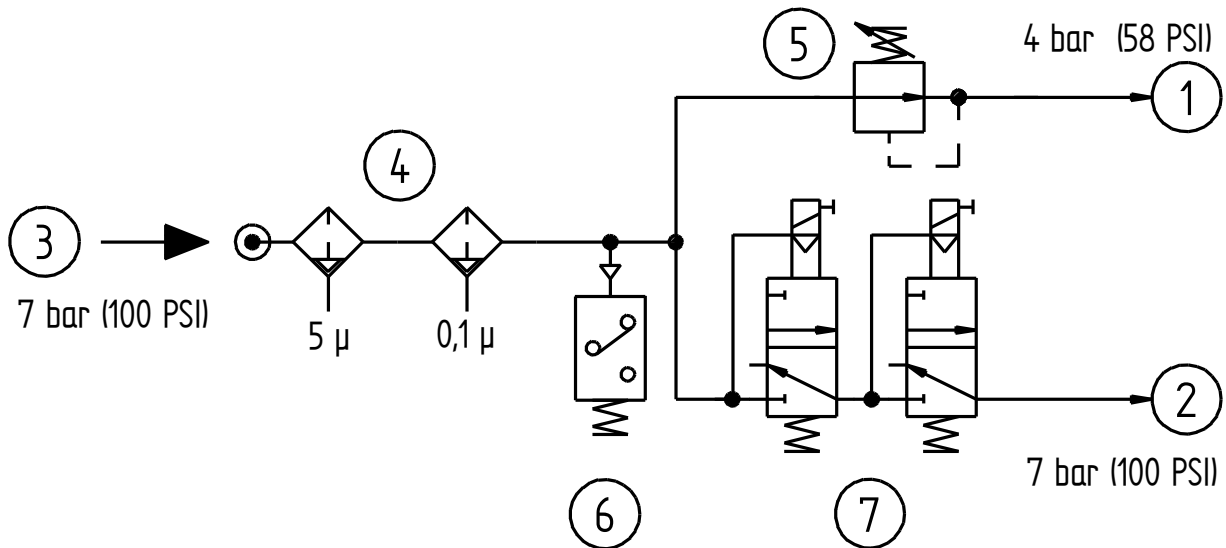

Figure 9.6 Typical compressed air connection diagram
Figure 9.6 shows typical compressed air system connections, to be prepared by the customer. The use of two solenoid valves connected in series reduces the risk of system malfunctions. Though it is very rare for this type of fault to occur, it can have very serious consequences if it does. Redundancy is therefore recommended.
**Use 2 separate circuits to connect the solenoid valves (pos. 7 in Figure 9.6) to the numeric control unit or manual control system.**
E	Tool release solenoid valves (See pos. 7 in Figure 9.6 and the warnings for it.)